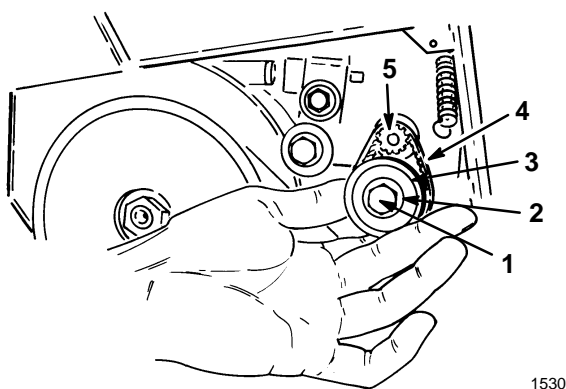

Figure 21
3. Remove small pulley bolt (left hand thread) by turning bolt clockwise, remove (2) washers, and small pulley (Fig. 21).
4. Remove and discard small belt (Fig. 21).
5. Slide (2) washers onto bolt. Insert bolt through small pulley. Bolt must ride on bearings in small pulley.
7. Slide belt over motor shaft pulley (Fig. 21).